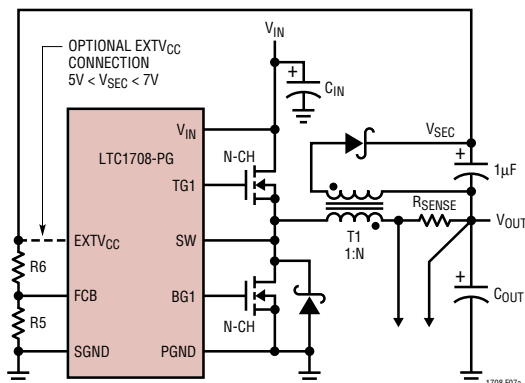
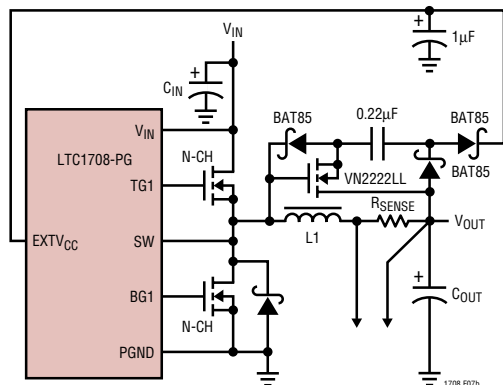

Figure 7a. Secondary Output Loop & $EXTV_{CC}$ Connection
Figure 7b. Capacitive Charge Pump for $EXTV_{CC}$
4. $EXTV_{CC}$ Connected to an Output-Derived Boost Network. For 3.3V and other low voltage regulators, efficiency gains can still be realized by connecting $EXTV_{CC}$ to an output-derived voltage that has been boosted to greater than 4.7V. This can be done with either the inductive boost winding as shown in Figure 7a or the capacitive charge pump shown in Figure 7b. The charge pump has the advantage of simple magnetics.